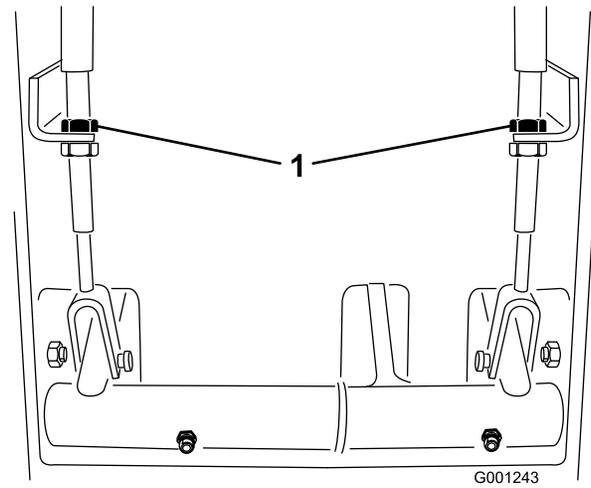

Figure 63
2. To reduce the free travel of the brake pedals, tighten the brakes by loosening the front nut on the threaded end of brake cable (Figure 63). Then tighten the rear nut to move cable backward until the brake pedals have 13 mm to 25 mm (1/2 to 1 inch) of free travel.